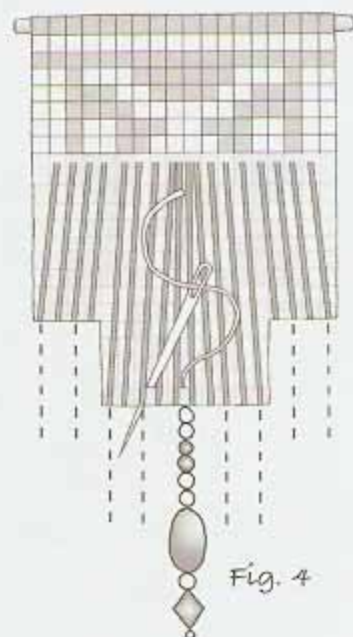

Fig. 4
6. Add the other strands of fringe to either side in the same way, making sure that they appear balanced and even (see Figure 4 for suggested fringe placement). When moving from one strand to the next, you can sew through the hemmed cords when necessary to anchor the beading thread. It may help to sketch out the placement of the strands on a sheet of scrap paper and use that as a guide or you can just "eyeball" it.